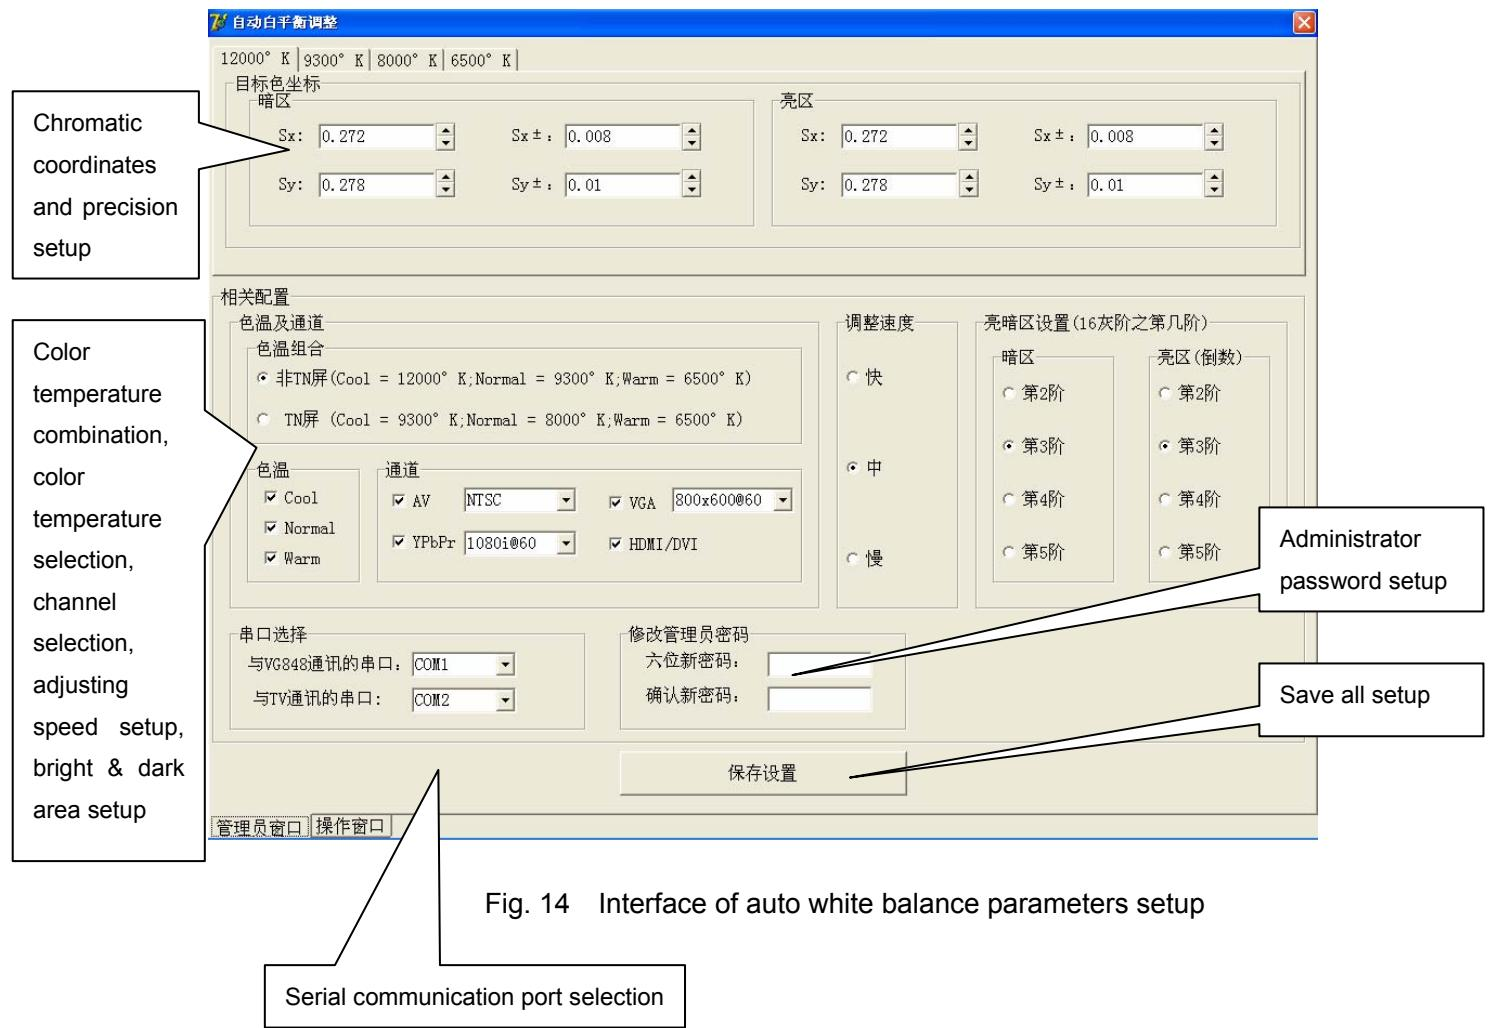
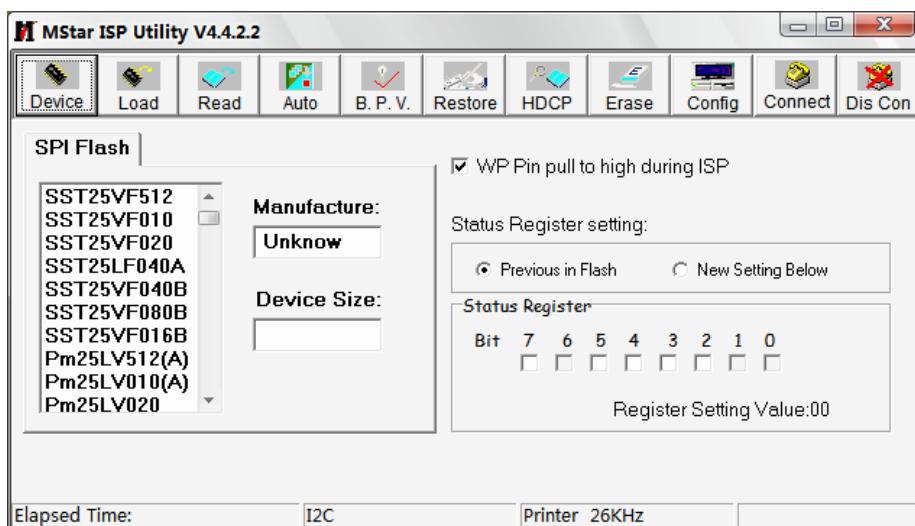

Fig. 14 Interface of auto white balance parameters setup
Fig. 15 Write-protect setup
#### 4.4.4 Adjusting interface are shown as Fig. 14 and Fig. 15
- Using **Mstar** online burning program (**V4.4.2.0** and higher versions), enter into menu “Device”, tick option “WP Pin pull to high during ISP”, ensure that hardware write-protect of Flash is removed and erasing process is normal, please refer to Fig. 15;